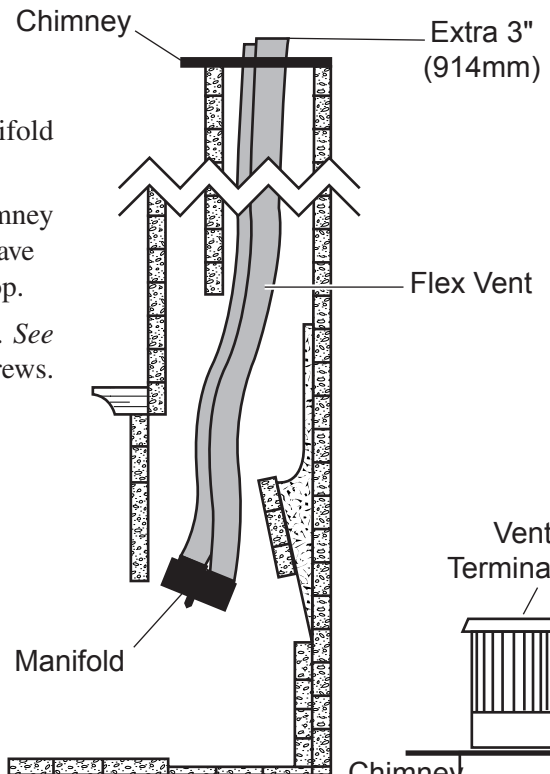

Figure 8 - Attaching Flex Vent to Manifold
4. Attach flex vent to manifold. See Figure 8 and attach with screws.